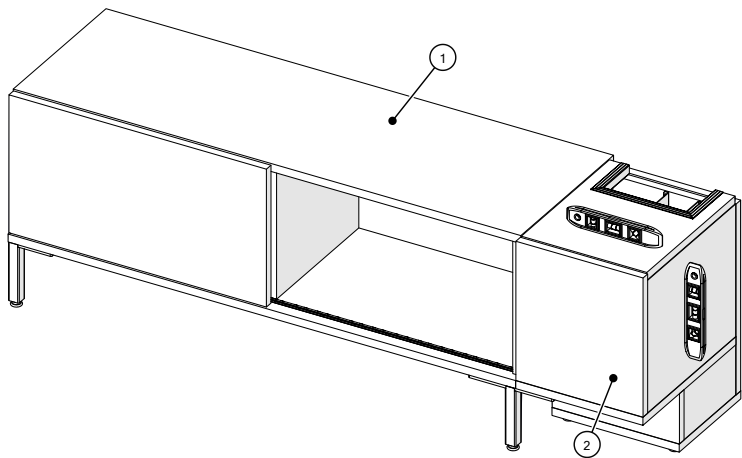

Figure 1
- 2. Level/align the HAT integration box from front to back and side to side by rotating the adjustable glide counterclockwise to extend the glide and raise the storage unit, (Figure 1).